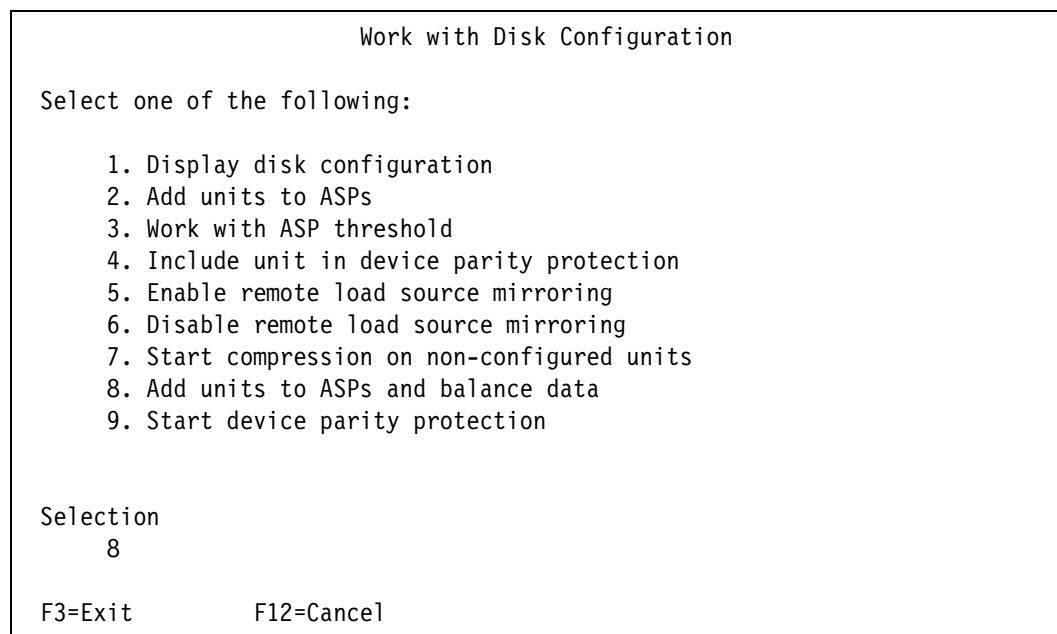

Figure 17-3 Work with Disk Configuration menu
4. When adding disk units to a configuration, you can add them as empty units by selecting Option 2 or you can choose to allow IBM i to balance the data across all the disk units. Typically, we recommend balancing the data. Select Option 8, Add units to ASPs and balance data, as shown in Figure 17-3.